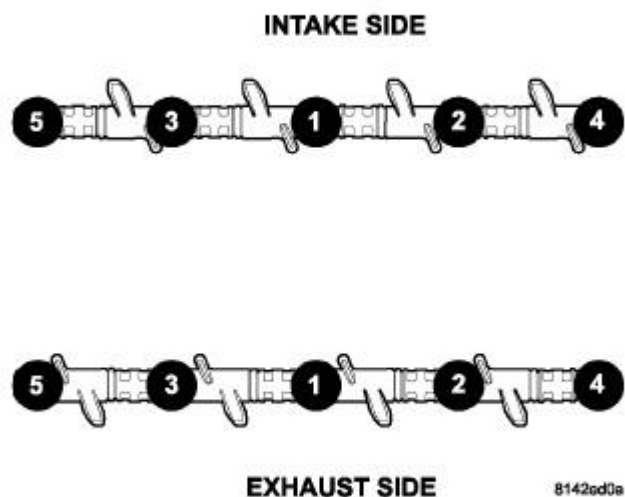

Fig. 93: ROCKER SHAFT TORQUE SEQUENCE
9. Remove exhaust/intake rocker arm shafts using the sequence shown in **Fig. 93**.